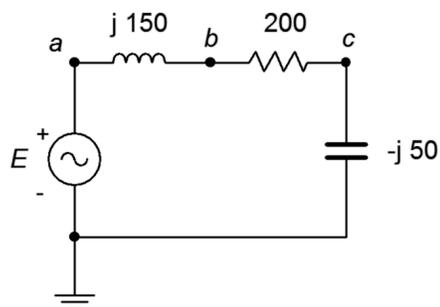

Figure 2.24
42. For the circuit of Figure 2.24, determine the circulating current and the voltages across each component.  $E$  is a 100 millivolt peak 250 Hz sine. Further, draw a phasor diagram of the four component voltages.